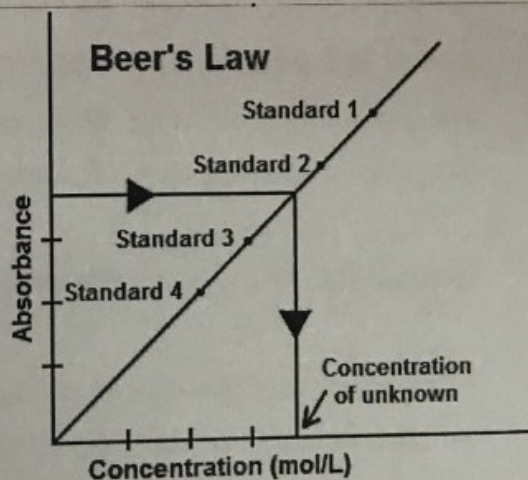

Figure 2: Model calibration curve for Ni(II) determination
containing nickel(II) solution from a burette to the flask. All flasks are shaken well and made up to 100 mL mark with 1N NaOH solution. Allow the flasks at least for 15 minutes after the addition of all the reagents for the complete complex formation. Then the absorbance of the formed brown-red solution is measured at 440 nm against the distilled water (blank). Record these absorbance readings in Table-1. Draw a calibration graph taking concentration of nickel(II) as X-axis and absorbance readings as Y-axis and a straight line that passes through the origin (see Figure 2). From the molar concentration of nickel solution and cell path length, calculate the molar absorptivity of the oxidized nickel-dimethylglyoxime complex at 440 nm. From the calibration plot, measure the concentration of nickel in the unknown sample.